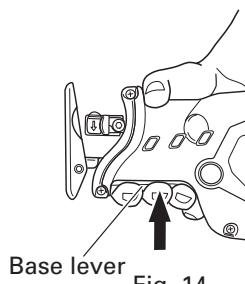

Fig. 14
- (3) You can adjust the base position in three stages. Move the base at an interval of about 15 mm, find the position where the base hooks, and press in the base lever with your fingers. The base is secured when you hear the clicking sound. (Fig. 14)